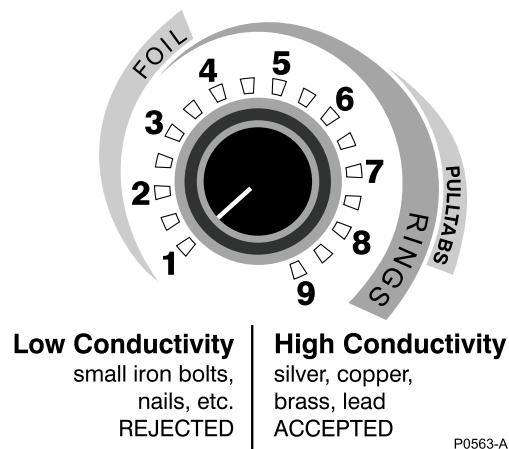

Figure 10 - Discrimination Level Adjust control examples
In “Discriminate” mode, the *Advantage* will discriminate most ferrous objects and only provide a signal for a non-ferrous object. If the Level Adjust is set to “1” as shown in Fig 10, page 14 (large ferrous objects may produce short “pops” or “clicks”). Non-ferrous objects will give a normal “signal beep” and be “accepted”.
The setting of the Discrimination Level Adjust is relative to the types of objects that you wish to hunt for, and the amount of trash that you are prepared to detect. If you do not want to dig old bottle caps but want to dig brass buttons or copper coins, the Discrimination Level Adjust control is set higher (approximately at number 7 in Figure 10) but most fine white gold rings, foil and some yellow gold rings will also be ignored.
- b) Turn the Discriminate control to approx. “1” position (Fig 10, page 14).